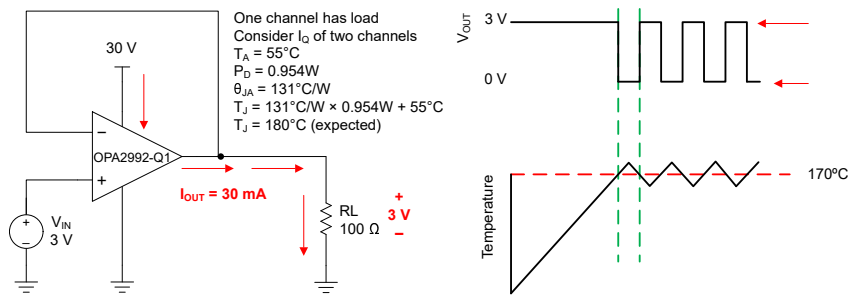

图 6-4. Thermal Protection
The internal power dissipation of any amplifier causes the internal (junction) temperature to rise. This phenomenon is called *self heating*. The absolute maximum junction temperature of the OPAx992-Q1 is 150°C. Exceeding this temperature causes damage to the device. The OPAx992-Q1 has a thermal protection feature that reduces damage from self heating. The protection works by monitoring the temperature of the device and turning off the op amp output drive for temperatures above 170°C. 图 6-4 shows an application example for the OPA2992-Q1 that has significant self heating because of the power dissipation (0.954W). In this example, both channels have a quiescent power dissipation while one of the channels has a significant load. Thermal calculations indicate that for an ambient temperature of 55°C, the device junction temperature reaches 180°C. The actual device, however, turns off the output drive to recover towards a safe junction temperature. 图 6-4 shows how the circuit behaves during thermal protection. During normal operation, the device acts as a buffer so the output is 3V. When self heating causes the device junction temperature to increase above the internal limit, the thermal protection forces the output to a high-impedance state and the output is pulled to ground through resistor  $R_L$ . If the condition that caused excessive power dissipation is not removed, then the amplifier oscillates between a shutdown and enabled state until the output fault is corrected. Please note that thermal performance can vary greatly depending on the package selected and the PCB layout design. This example uses the thermal performance of the SOIC (8) package.